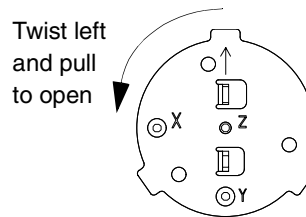

Figure 3-5b Lamp removal plate
4. Twist the lamp socket assembly to the left and pull straight out of the fixture (see Figure 3-5b).